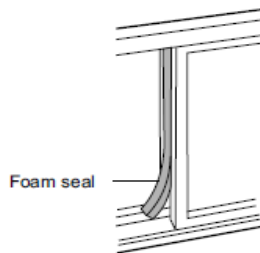

Fig. 17
5. Cut the foam seal to the length and seal the open gap between the top window sash and outer window sash. Show in Fig. 17.